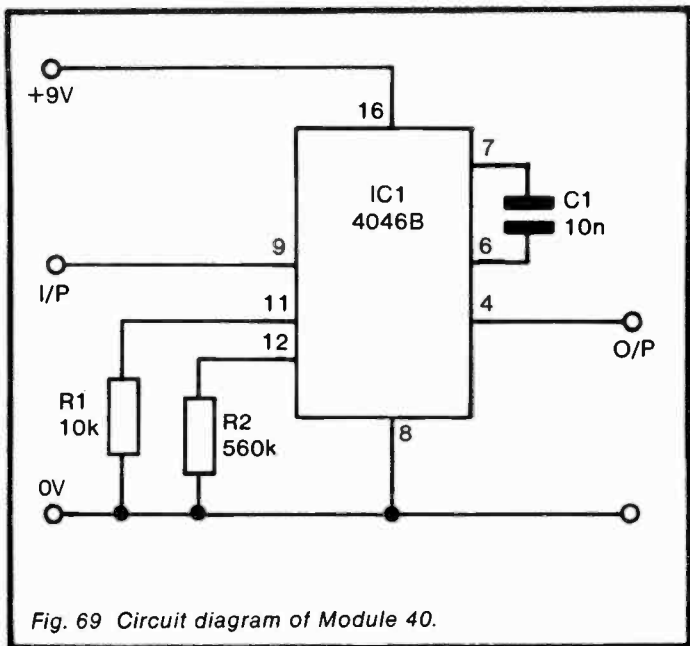

Fig. 69 Circuit diagram of Module 40.
*Circuit diagram:* see Figure 69.
**Output specification:** can drive any of the amplifier modules, or directly feed a signal to the loudspeaker module (Module 62). With the values given in Figure 69, the frequency ranges from 200Hz to 10kHz.